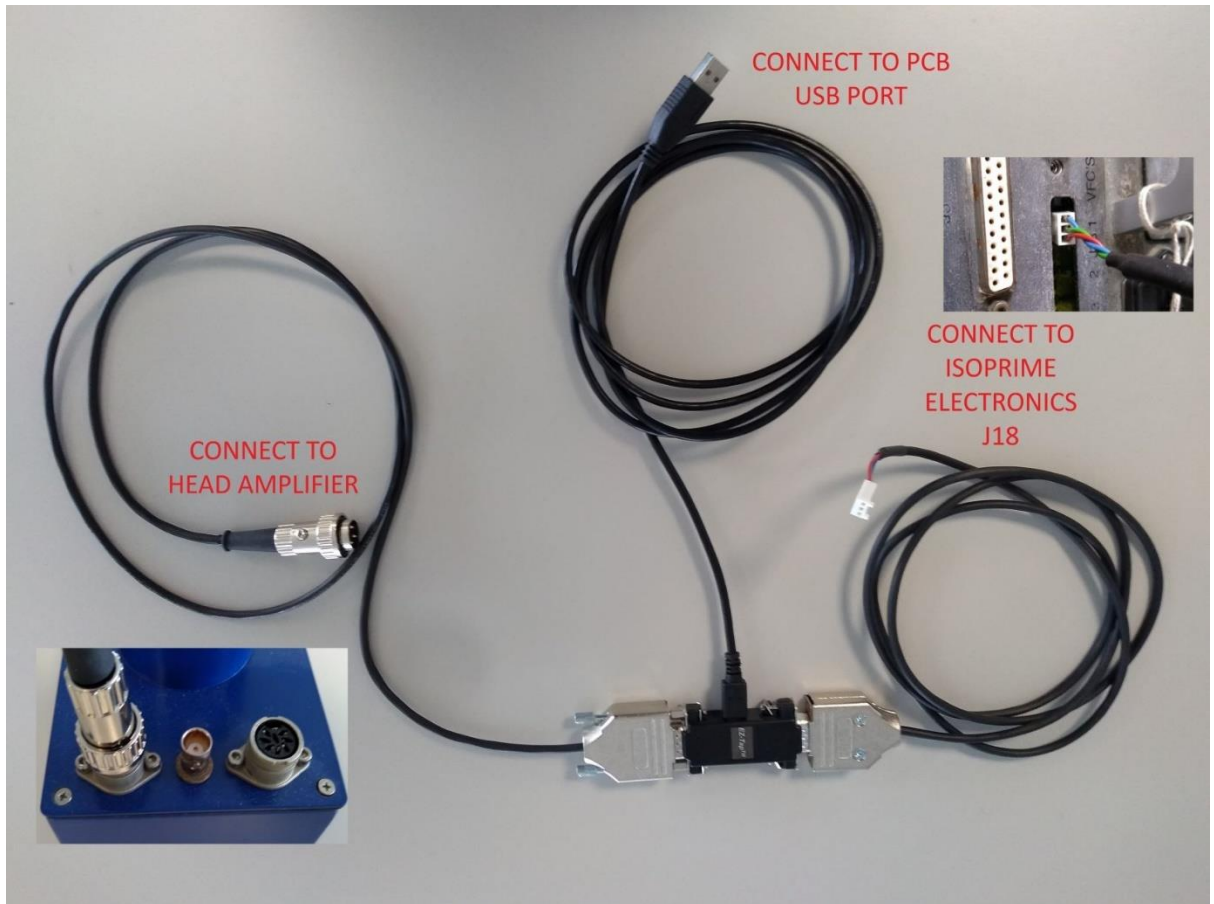

Figure 1: Cable Connections
1. Remove the existing head amp data connections and connect the supplied cables as shown in Figure 1. Connect the USB connector from the EZ-Tap to a free USB port on the PC.